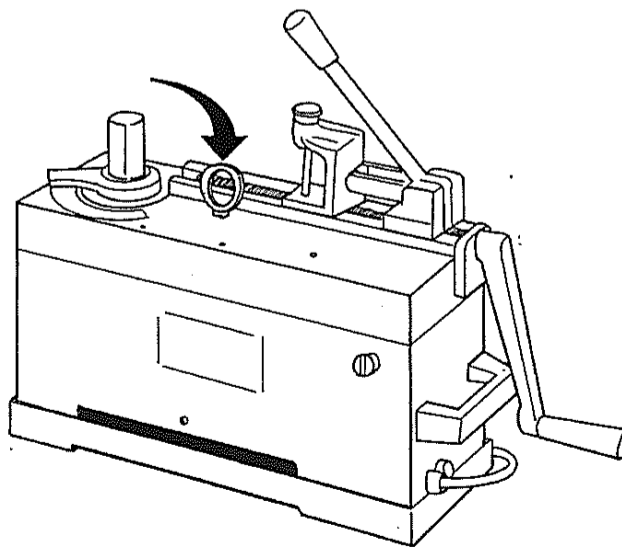

Figure 11 - Lifting eyebolt position
- Lift the machine by the lifting eyebolt screwed into the top casing (Figure 11).